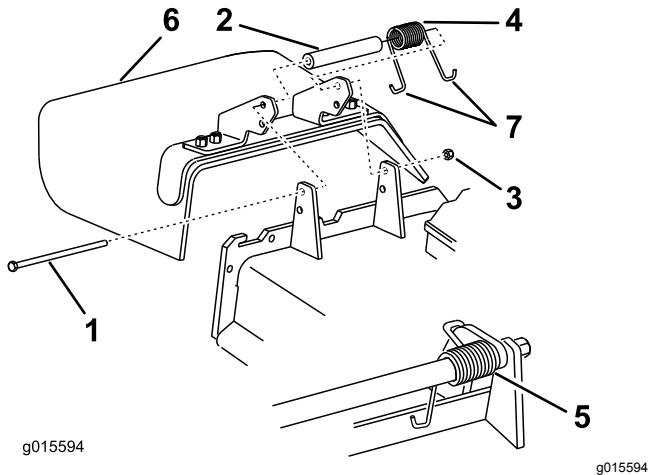

Figure 25
- Remove the locknut, bolt, spring, and spacer holding the deflector to the pivot brackets (Figure 25).
- Remove the grass deflector (Figure 25).